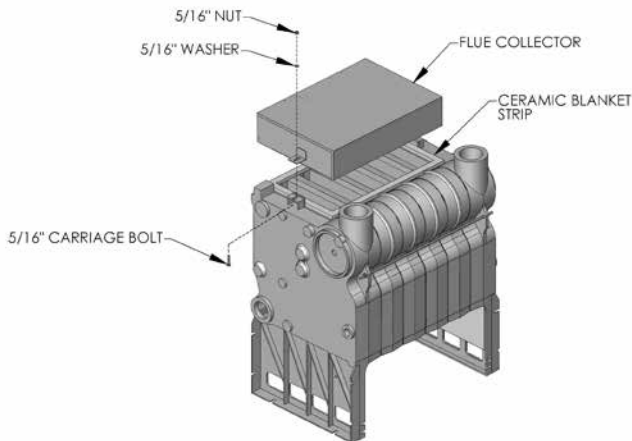

Figure 2.4: Flue Collector Attachment
3. Insert the two 1/4"-20 carriage bolts provided with boiler into the lugs on top of the boiler end sections as shown in Figure 2.4.